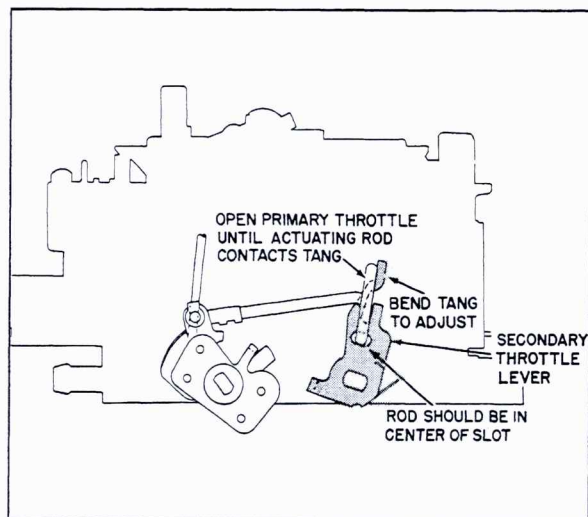

Fig. 6-84 Secondary Throttle Adjustment
87. Secondary Throttle Opening Adjustment (Fig. 6-84)
2. Bend tang on secondary throttle lever, Fig. 6-84, if necessary to adjust.